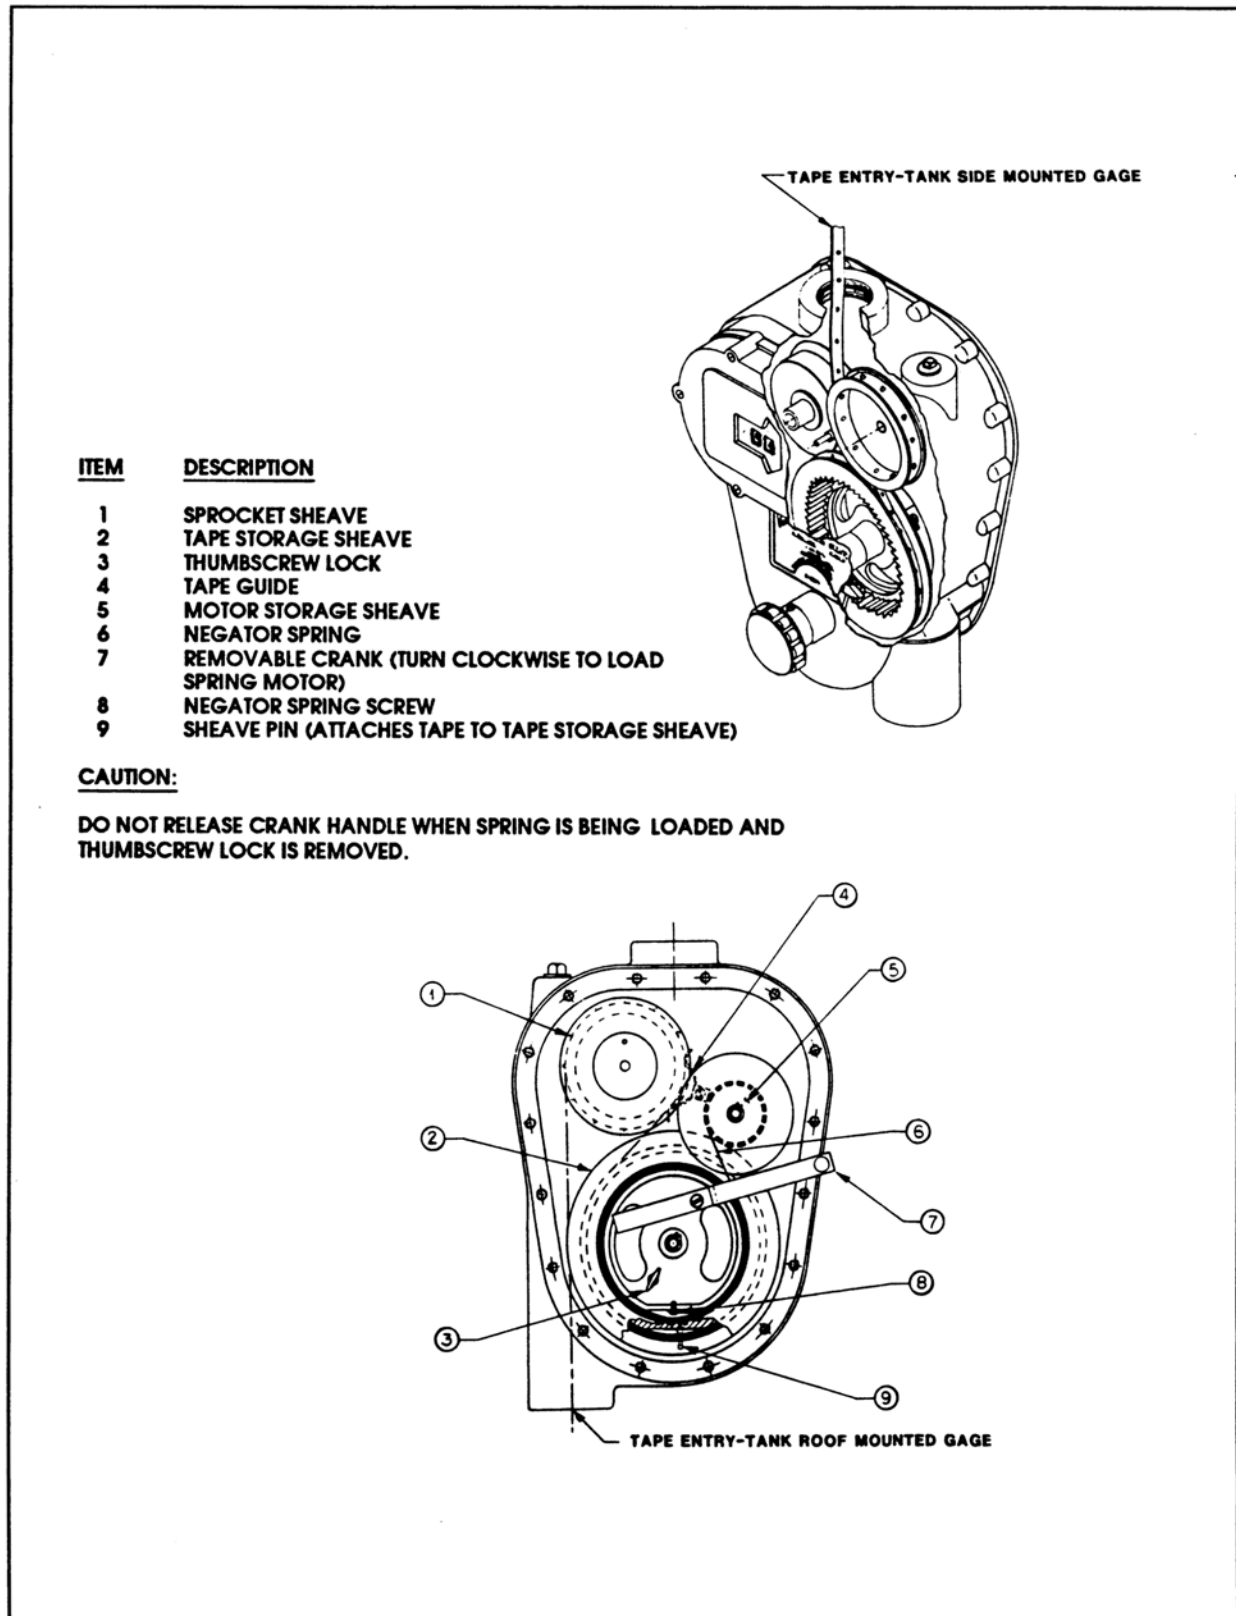

Figure 3-5: Tape Installation (Low Pressure Gaugehead Shown)
25. See Figure 3-5 on page 19 and attach the furnished installation crank to the tape storage gaugehead tape storage sheave.
Figure 3-5 shows a tape installation on a low pressure gaugehead.
28. See Figure 3-5 on page 19 and attach the furnished installation crank to the tape storage gaugehead tape storage sheave.